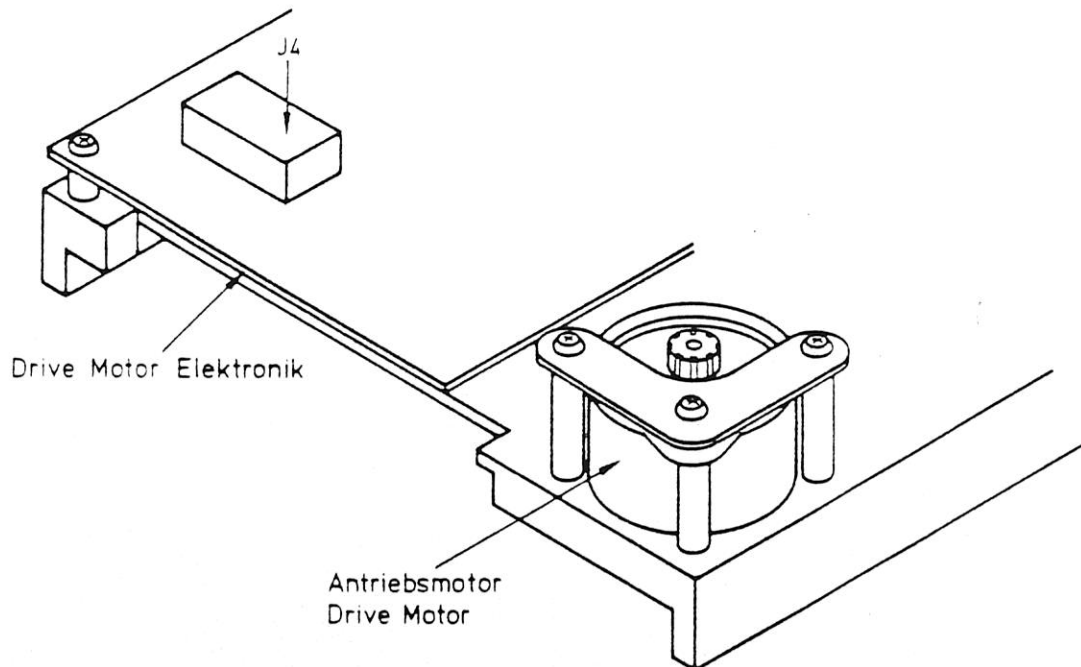

Fig. 5.3 Capstan Motor
- Motor Drive Board (Fig. 5.3)